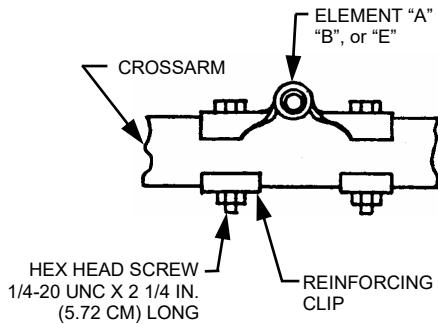

FIGURE 3
4. The parasitic elements are mounted onto the crossarm at its match-marked location with 1/4-20 x 2 1/4" long hex head screws, as shown in Figure 3. Use a reinforcing clip at each screw location.